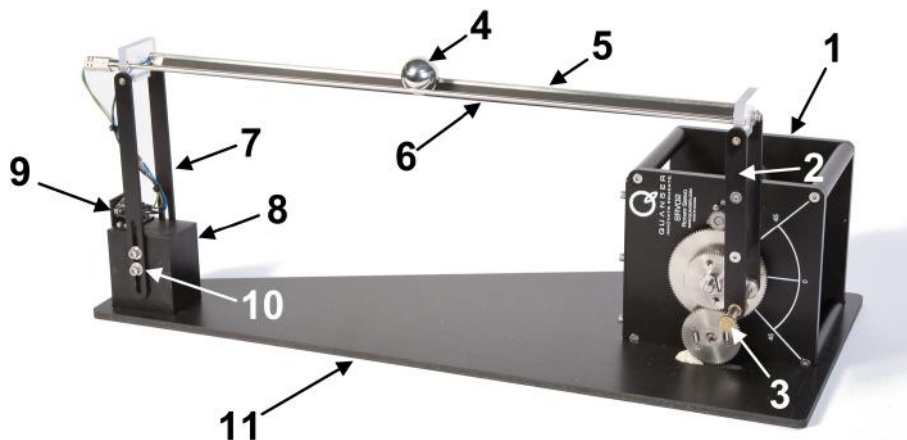

Figure 2.1: Components on Ball and Beam system
The components of the Ball and Beam module are listed in Table 2.1 and labeled in Figure 2.1.
2. Lay the calibration base, component #11 in Figure 2.1, flat on a table surface.